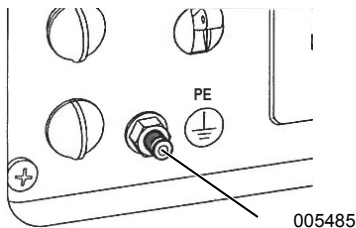

Figure 3-1. Grounding the Generator
The generator is equipped with an equipment ground connecting the generator frame and the ground terminals on the AC output receptacles (see NEC 250.34 (A)). This allows the generator to be used as a portable without grounding the frame of the generator as specified in NEC 250.34. See Figure 3-1.